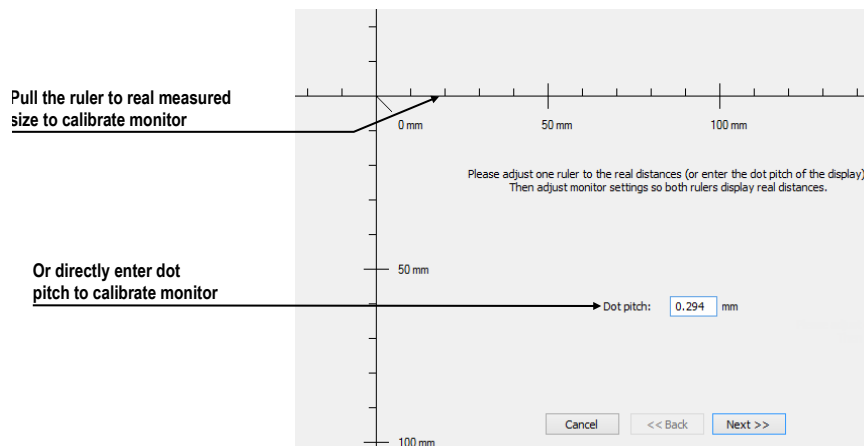

Figure 74 – Monitor calibration
2. The **Full screen calibration** dialog is displayed on the selected monitor (see Figure 74).